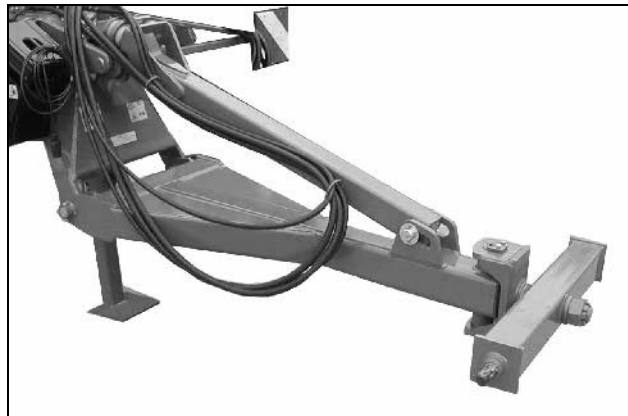

Fig. 10
- the lower linkage cat. III (Fig. 10)